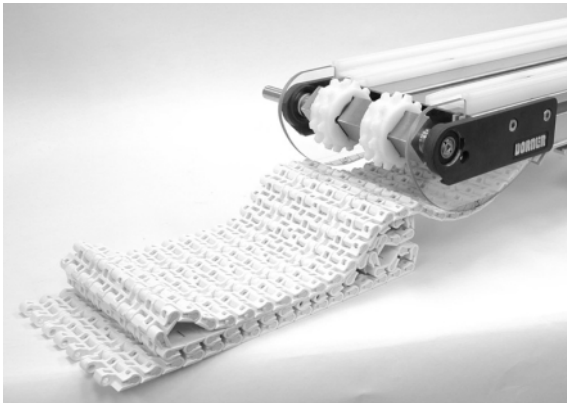

Figure 19
4. Pull back topside of belt to the drive end of the conveyor. See figure 19.